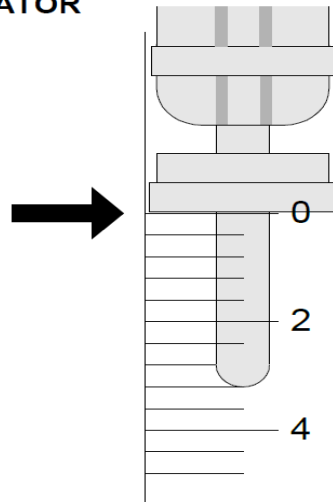

Fig 1 - Adjust reagent level to zero mark
- 6 Adjust the plunger so the solution level coincides with the zero mark (Fig 1).